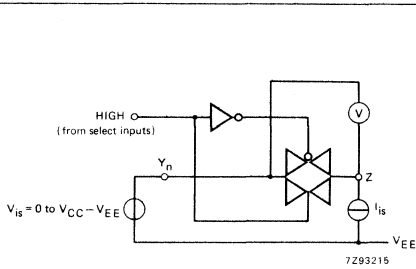

Fig. 8 Test circuit for measuring  $R_{ON}$ .
- For test circuit measuring  $R_{ON}$  see Fig. 8.